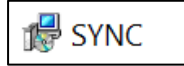

Figure 1: SYNC.msi icon
Step 2: Click the **SYNC.msi** file (**Figure 1**) and proceed through the setup (**Figure 2**) to launch SYNC for the first time.